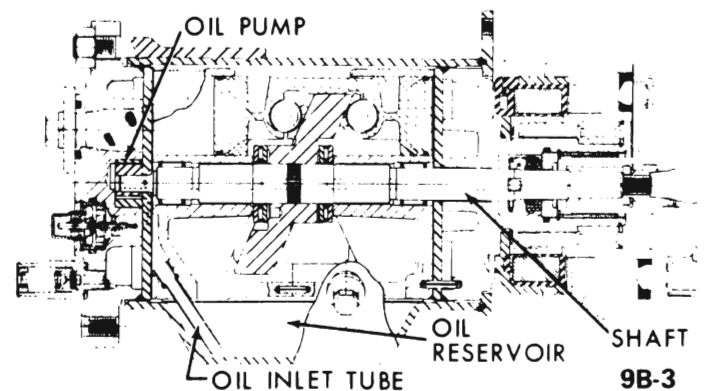

Figure 9B-3 Compressor Oil Flow
4. Shaft and Axial Plate Assembly - The shaft and axial plate assembly (see Figure 9B-106) consists of an elliptical plate positioned obliquely to the shaft. As the plate and shaft rotate, the surface of the plate moves to and fro lengthwise relative to the centerline of the shaft. This reciprocating motion is transmitted to the pistons which contact the surface of the axial plate. A woodruff key locks the axial plate onto the shaft. The axial plate and shaft are serviced as an assembly. The shaft is driven by a pulley when the magnetic clutch is energized. A needle thrust bearing and a mainshaft bearing support the shaft horizontally and vertically.